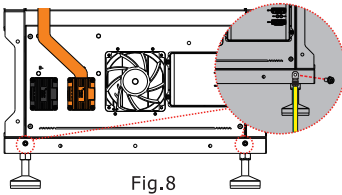

Fig.8
- Grounding: Connect all cluster chassis grounds to ground using the provided cables (Fig. 8).